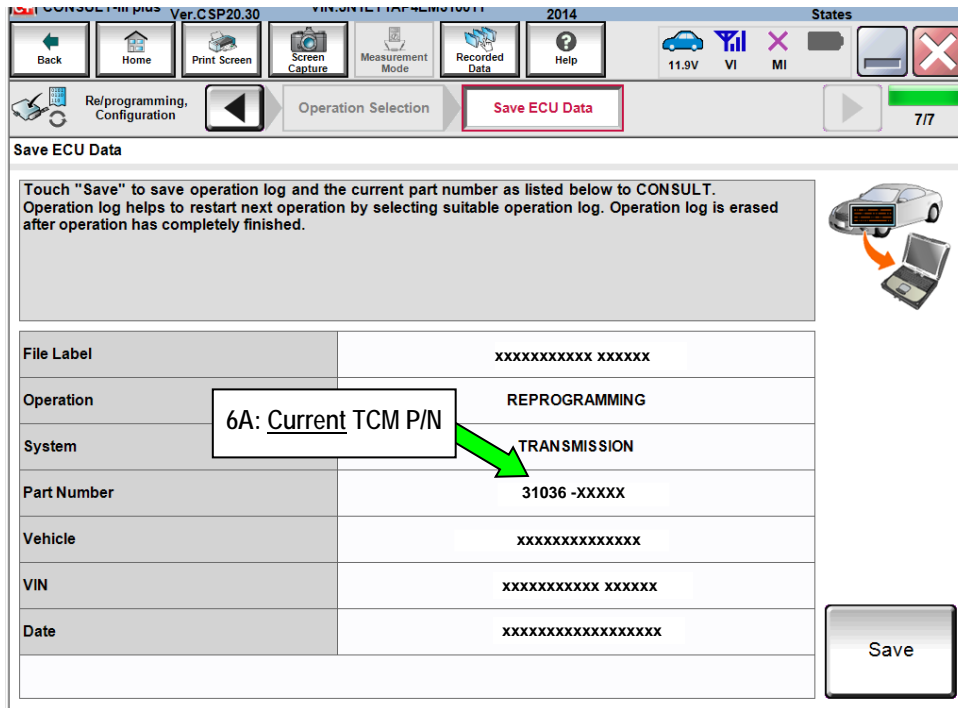

Figure 2A
5. Follow the on-screen instructions and navigate C-III plus to the screen shown in Figure 2A on the next page.
6. When you get to the screen shown in Figure 2A, confirm this bulletin applies as follows.